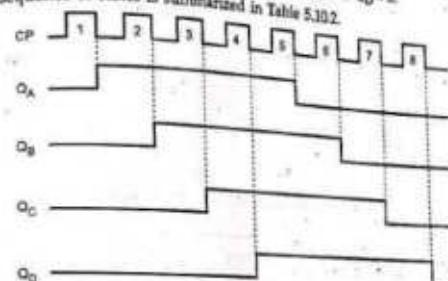

Fig. 5.10.4 Timing sequence for a four-bit Johnson counter
- Fig. 5.10.4 gives the timing sequence for a four-bit Johnson counter.